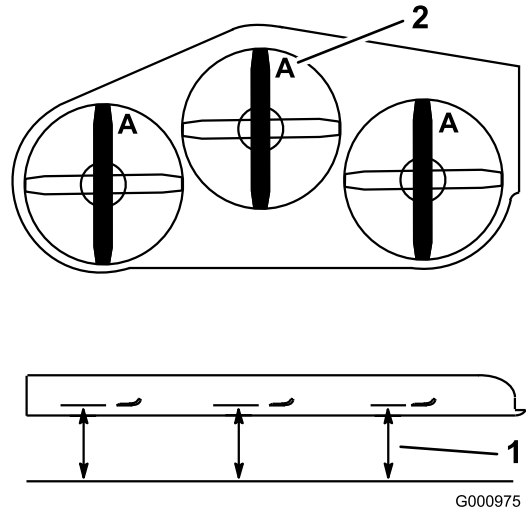

Figure 96
4. Measure from a level surface to the cutting edge, position A, of the blades (Figure 96).